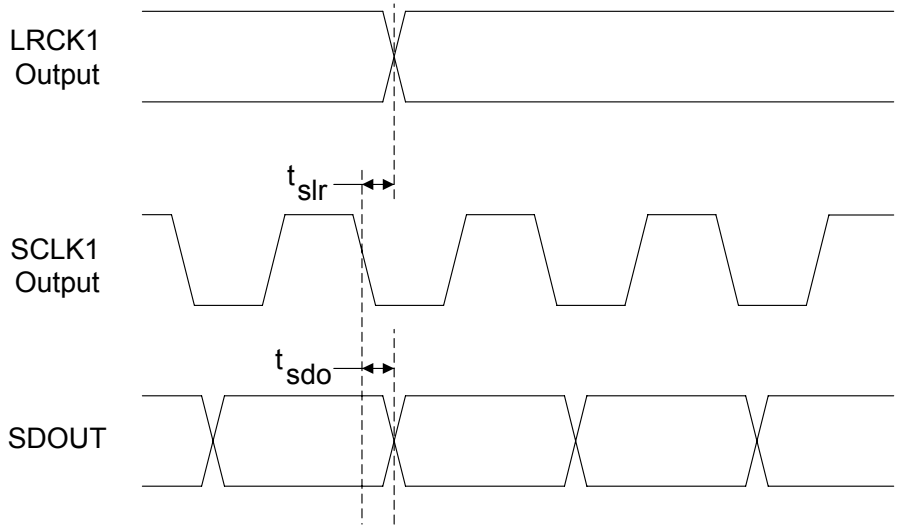
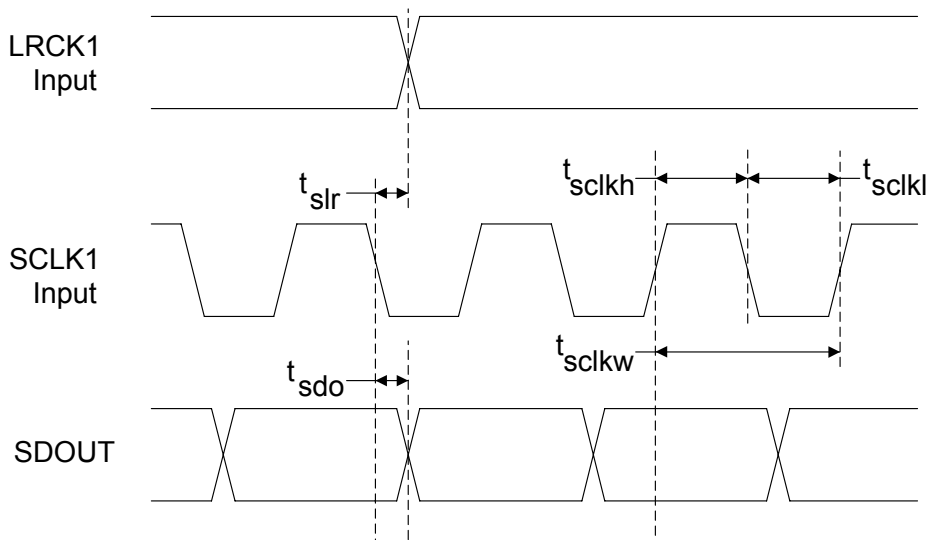

Figure 3. Master Mode Timing - Serial Audio Port 1
Figure 4. Slave Mode Timing - Serial Audio Port 1
28. See Figure 3 and Figure 4 on page 23.